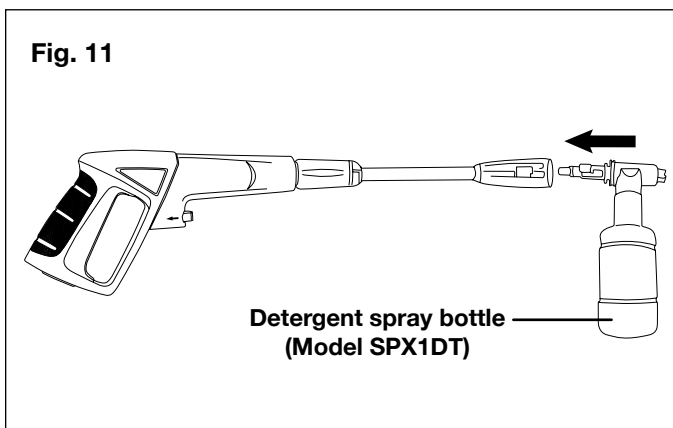

Fig. 11
- Load the bottle with a suitable, non-corrosive detergent and attach it the spray gun (Fig. 11).